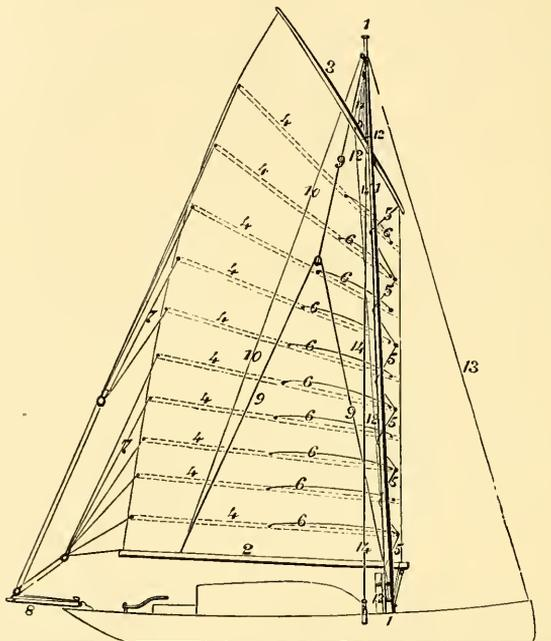

FIG. 135.
Battens are shown by 4 (Fig. 135) on plan. The bridles lead into two bowlines (7), and the bowlines again into one part, the latter leading